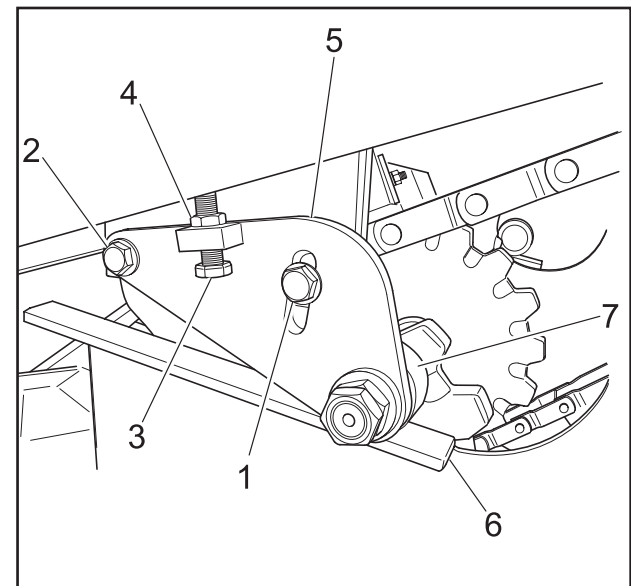
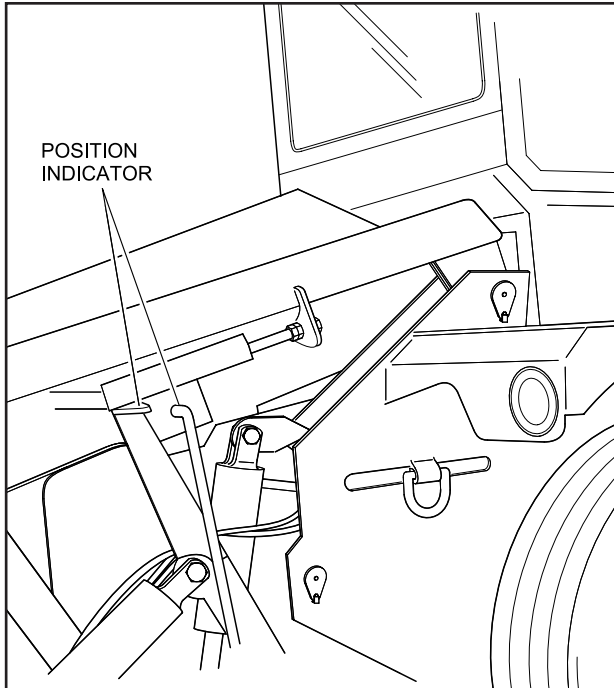

FIGURE 3-13 ROLLER ASSEMBLY ADJUSTMENT
FIGURE 3-14. MOLDBOARD POSITION INDICATORS
5. Refer to Figure 3-13, and loosen bolts (1) and (2).
6. Loosen the jam nut (4).
7. Using a pry bar, raise roller end of bracket (5) so that roller (7) is about 1/2 inch clear of rail (6).
8. Tighten bolt (1) securely to attach bracket (5) in place.
9. Adjust bolt (3) to just touch frame.
10. Tighten jam nut (4) securely to fasten bolt (3) in position.
11. Tighten bolt (2) securely.
12. Align position indicators in Figure 3-14.